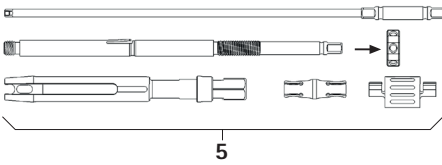

Fig. 3
- ▶ Disassemble reduction lever percutaneously **5**, see Fig. 3. Fully disassemble reduction lever and remove lock nut.